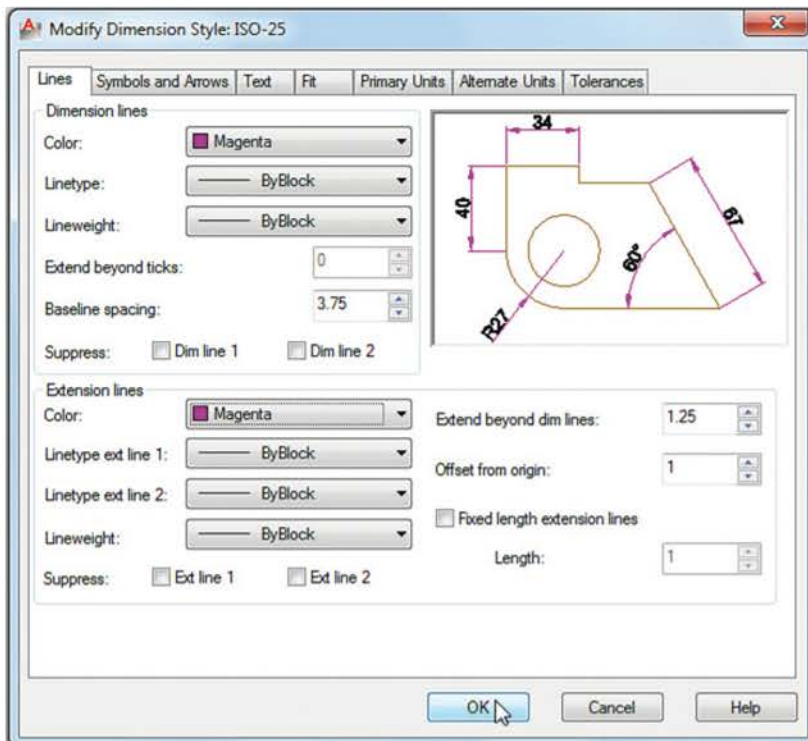

Fig. 5.11 Setting Line in the Dimension Style Manager
5. The **Modify Dimension Style** dialog reappears (Fig. 5.11), *click* the **Line** tab. Set **Line** to colour **Magenta**. Set **Text style** to **Arial**, set **Color** to **Magenta**, set **Text Height** to **6** and *click* the **ISO** check box in the bottom right-hand corner of the dialog.